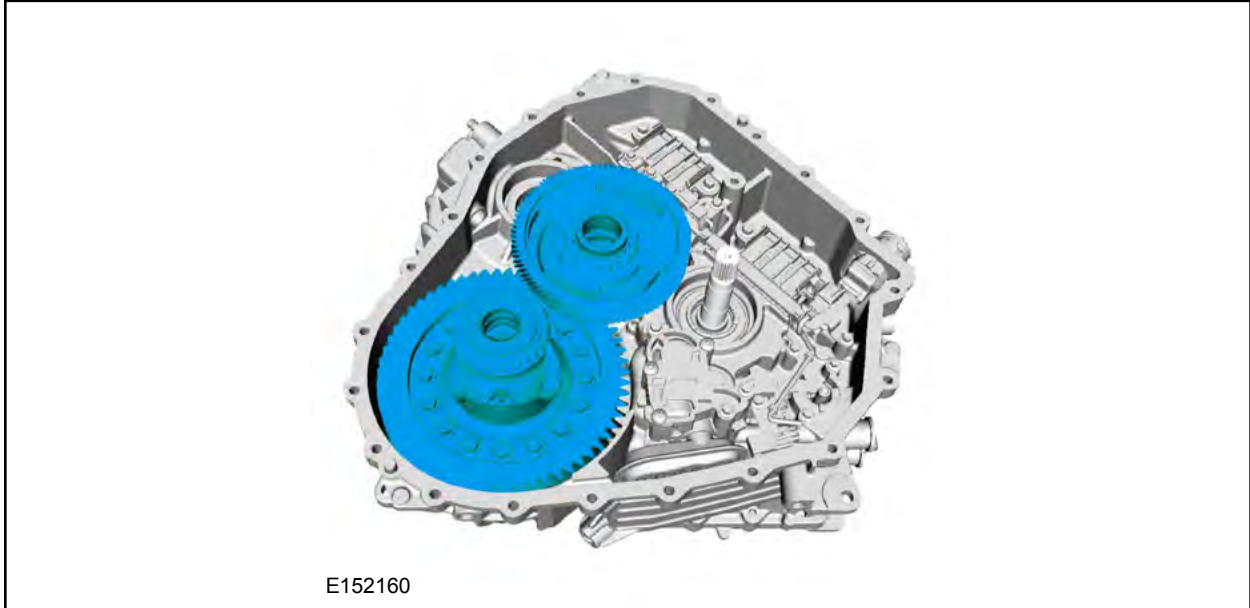

FIGURE 19
15. Install the *new* transfer shaft gear assembly and the differential carrier gear assembly. See Figure 19.